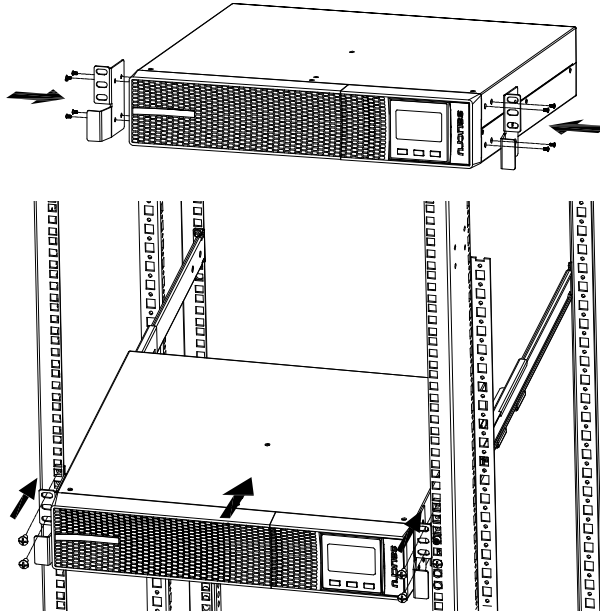
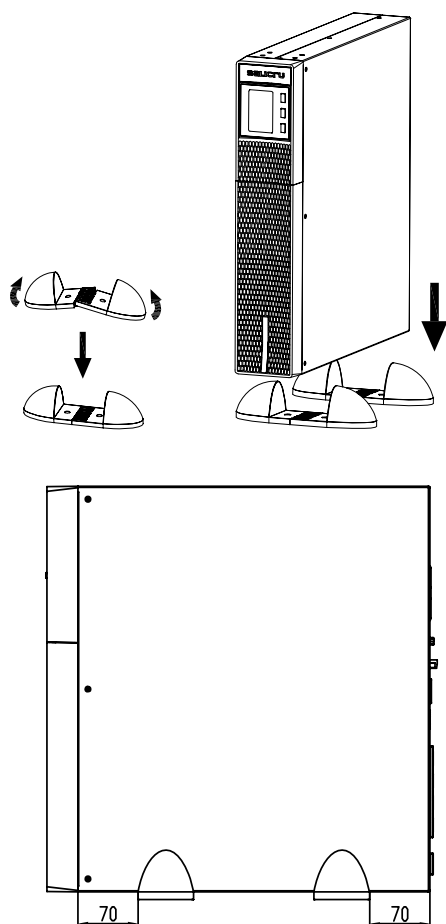

Fig. 6. Rack-type mounting in a 19" cabinet
Fig. 8. Vertical tower-type mounting.
- Place the UPS upright between the two bases at a distance of 70 mm from each end (see Fig. 6).
- Place the UPS and battery module upright between the two bases (see Fig. 8) and at a distance of 70 mm from each end, as shown in Fig. 6.
Plug the connector at one end of the cable into the corresponding socket on the SPS.ADVANCE and the one on the other end into the battery module (see Fig. 8).